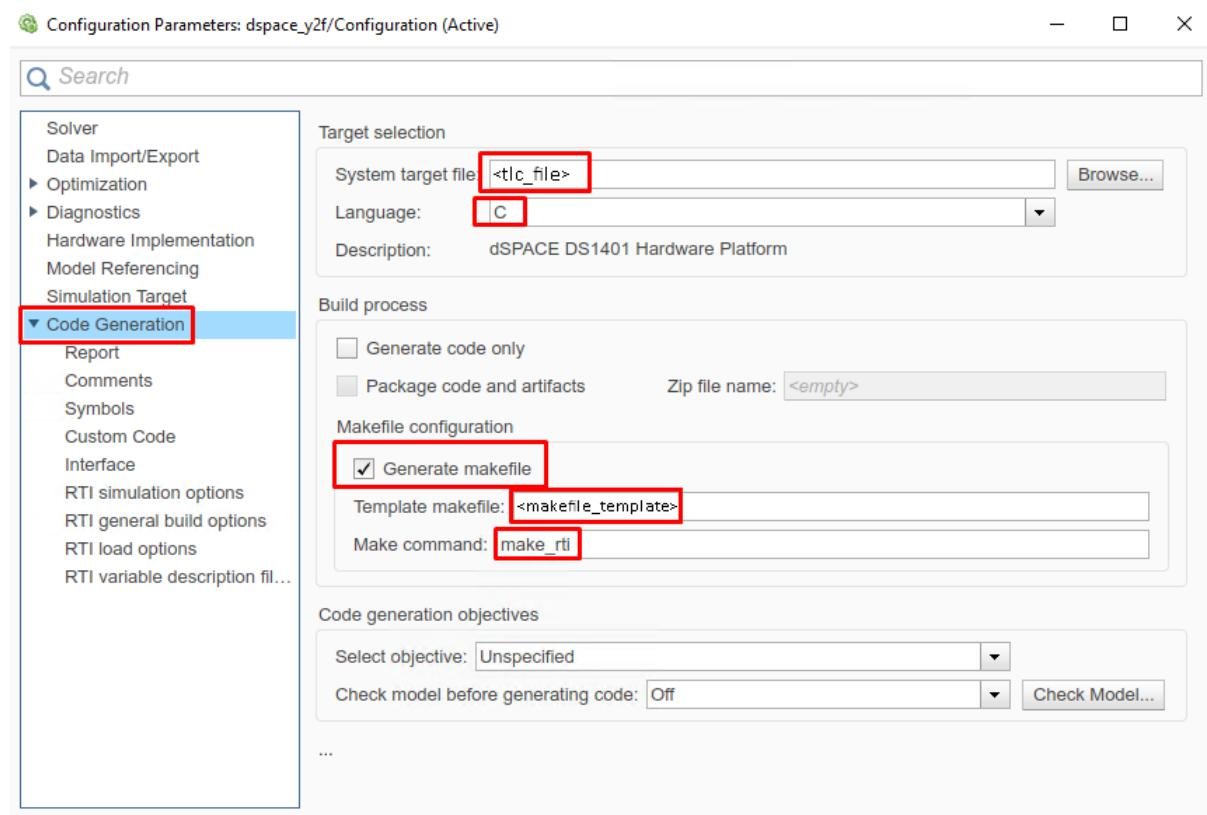

Figure 13.23: Set the Simulink code generation options.
- (Figure 13.23) In the “Code Generation/RTI general build options” tab, set the options (for `<t1c_file>` and `<makefile_template>` see *Simulink Model HW Target Configuration*):